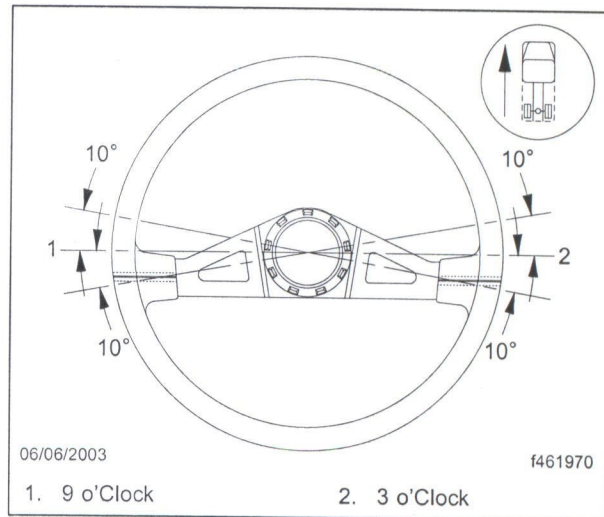

Fig. 4, Steering Wheel Centered
5. With the reliable feature on the steering wheel (as determined in step 2) aligned with the mark on the column, place the new steering wheel on the steering column. Make sure that the steering wheel is within 10 degrees of center as shown in Fig. 4. Insert the horn ground wires (from the center of the steering column shaft) through the center of the new wheel nut. Install the wheel nut and tighten 55 to 65 lbf ft (75 to 88 N m).